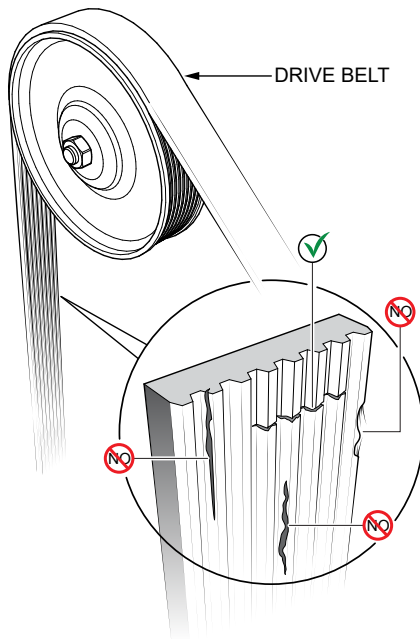

Figure 74. Drive Belt Inspection
1. Inspect the **drive belt** (Figure 74) for damage and wear. Horizontal cracks (across the belt) are acceptable. Vertical cracks (direction of belt ribs) that intersect with horizontal cracks are not acceptable.